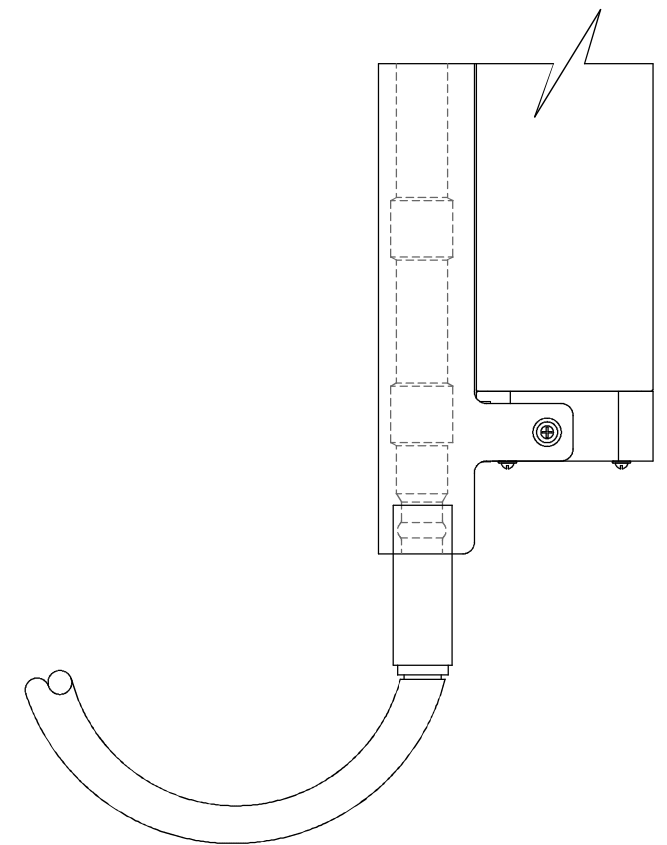

FIGURE 2
3. For systems without a TC Duct, connect tubing directly to end of conductivity cell. [Figure 2]